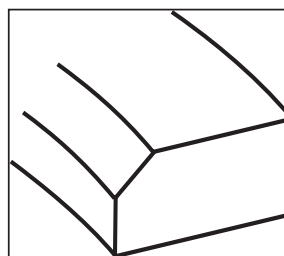

Figure 1
2. Top compression ring has a gray finish that is relatively light in color, and may or may not have a slight bevel along the inner edge. **See Figure 1.** It generally has no dot or other identifying mark. The light color can best be recognized by comparing compression rings to each other beneath a good light. Install light colored ring in top groove, bevel up. If there is no bevel, ring can be installed either side up.
- g. If ring has no dot but does have inside diameter bevel, bevel goes to top of piston. **See Figure 1** below.